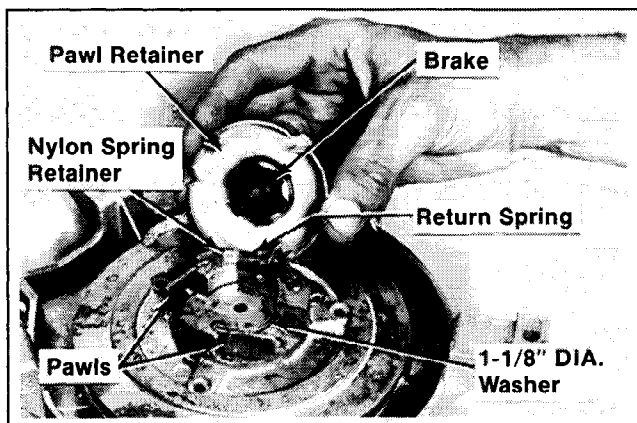

Figure 7-21. Installing Pawls, Pawl Retainer, And Related Components.
5. Install the starter pawls into the appropriate pockets in the pulley. Refer to Figure 7-21.